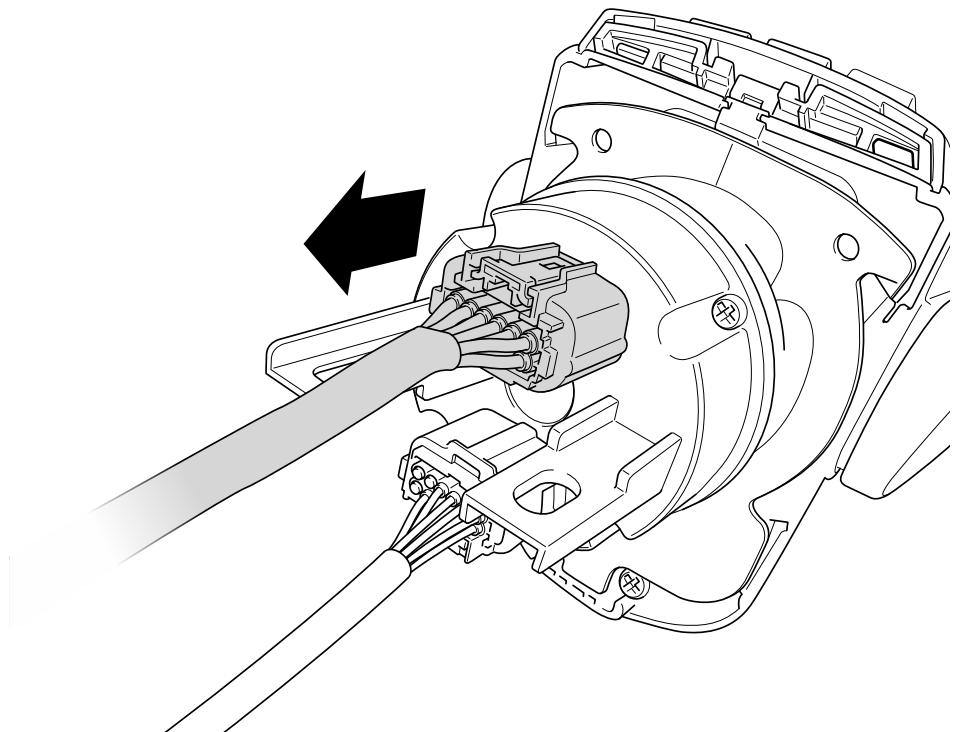

Figure 7-14.
2. On the underside of the Yamaha EX control head, locate and disconnect the black connector as per figure 7-14.